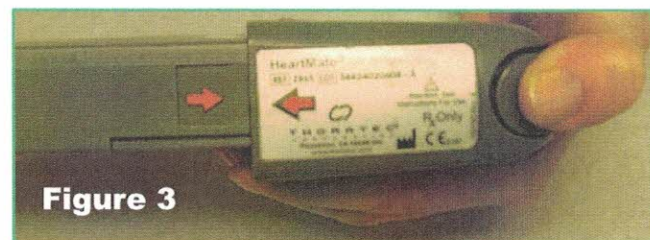

Figure 3
- Remove only **ONE** battery from the clip by pressing the button on the grey clip to unlock the battery. (Figure 3)